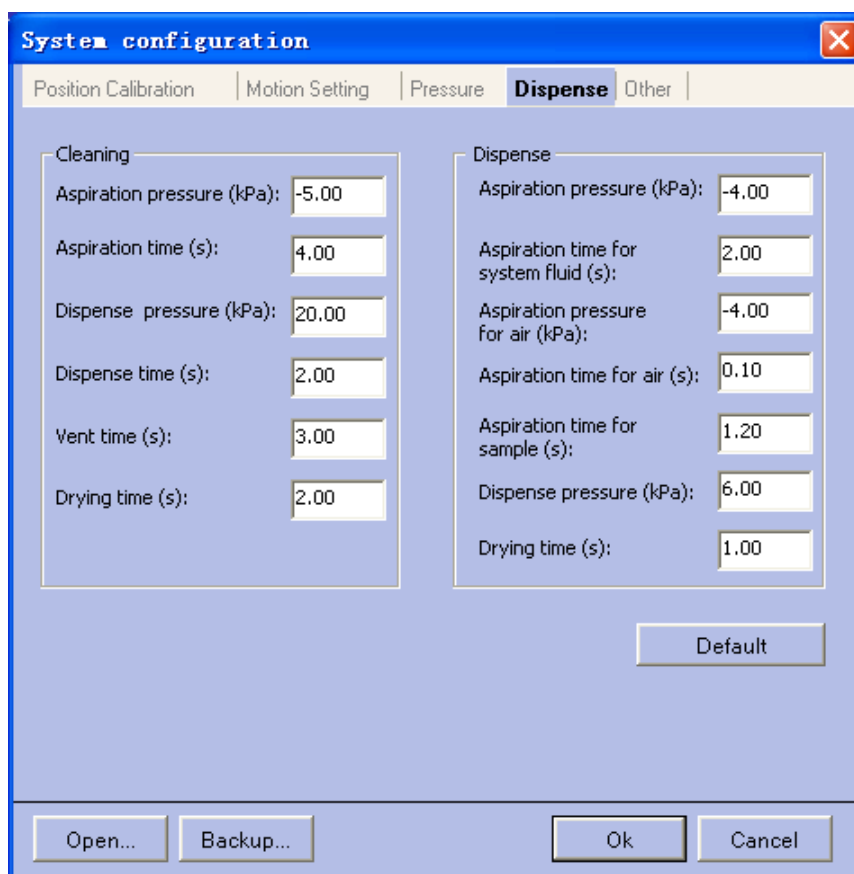

Figure 6-8 The interface for setting Dispensing parameters
- Access the Dispensing Parameters page on the Configuration Panel, as shown in Figure 6-8